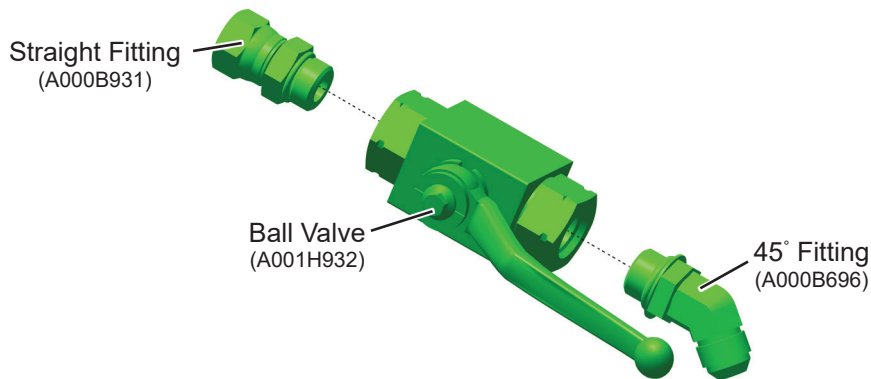

Figure 13. Ball Valve Assembly
17. Install straight fitting (A000B931) in end of ball valve (A001H932). See Figure 13. Final tighten straight fitting to 63 ft. lbs.
18. Install 45° fitting in other end of ball valve. See Figure 13. Final tighten 45° fitting to 63 ft. lbs.